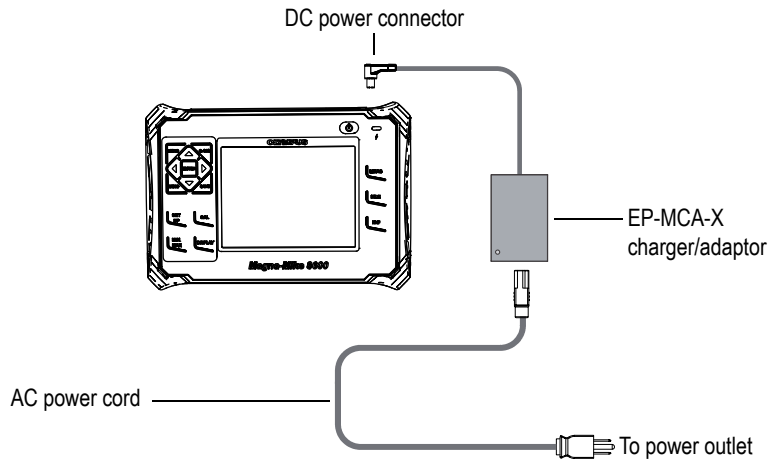

Figure 1-8 Connecting the charger/adaptor
1. Connect the AC power cord to the charger/adaptor and to an appropriate power outlet (see Figure 1-8 on page 26).